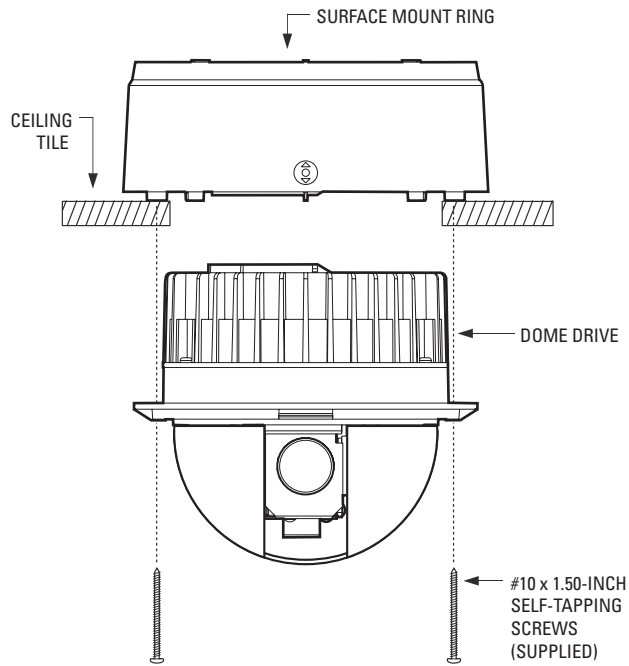

Figure 8. Ceiling Tile Installation
- b. Turn the surface ring upside down, and place it on the inside of the ceiling tile. Refer to Figure 8.
- c. Attach the dome drive to the ceiling tile and surface mount ring with the two #10 x 1.50-inch self-tapping screws (supplied). Refer to Figure 8.